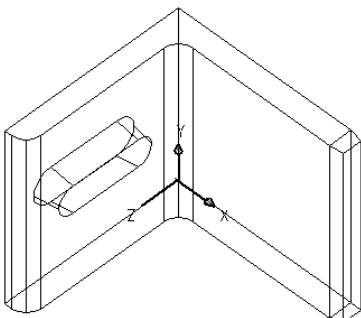

**Figure 24-51:** The edited mounting angle.
16. Save your drawing. It should look like Figure 24-51.